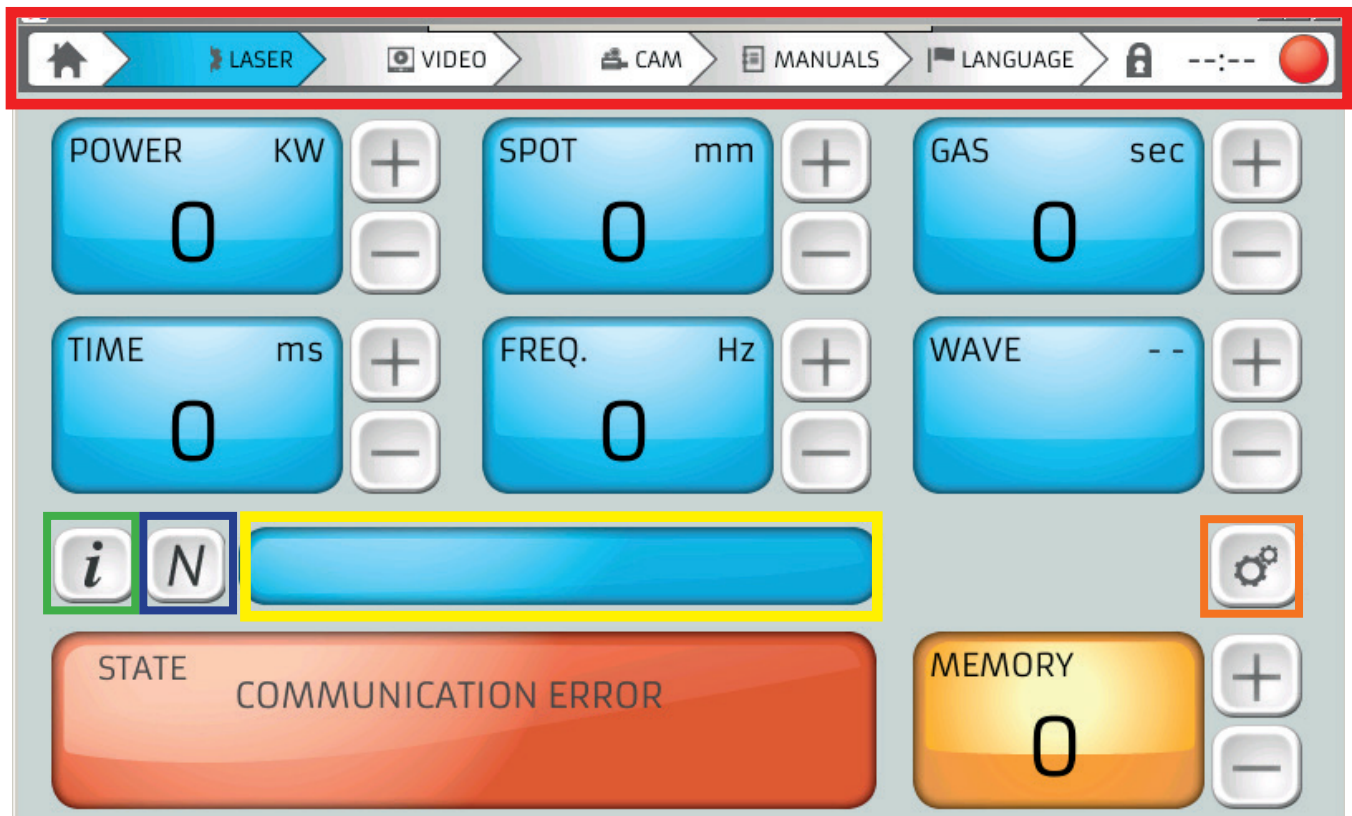

Figure 27 – Home screen controls
The home screen includes the MENU BAR (highlighted in RED in figure 27), the INFO MENU, identified by a button bearing the letter "i" (highlighted in GREEN in figure 27), the MEMORY MENU, identified by a button bearing the letter "N" (highlighted in BLUE in figure 27) and the MOTOR CONTROL MENU button, identified by an icon representing two interconnected gears (highlighted in ORANGE in figure 27).
- **MEMORY** – the number corresponding to the currently selected memory and the name that has been assigned to it are displayed in this box, which is highlighted in YELLOW in figure 27.
Press the key representing the two gears (highlighted in ORANGE in figure 27) to enter the motor control screen. You may also access this screen via the information menu, as explained on page 28 (figure 32).